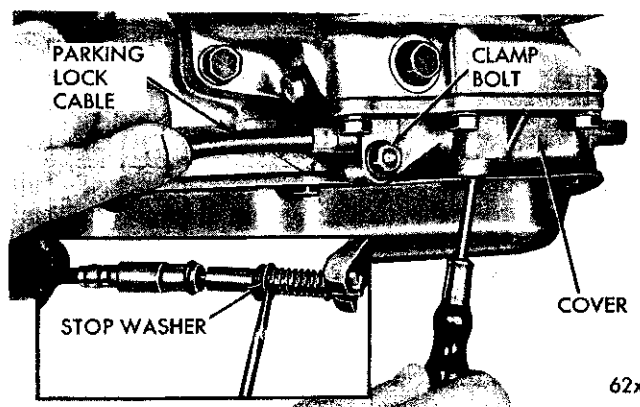

Fig. 19—Installing Parking Lock Cable
(1) Place the push button parking lock lever in the OFF position, or place the console selector lever in the NEUTRAL position.
(2) Insert a screw driver through the plug opening and position it behind the cable adapter stop washer (Fig. 19). Hold the adapter outward while pushing the cable in as far as possible, making sure the lock-spring engages the cable.
(3) Gently pull outward on the cable housing to its limit of travel, release and then tighten the clamp bolt to 10 inch-pounds torque. Reinstall the plug in the cover and tighten to 75 inch-pounds torque.